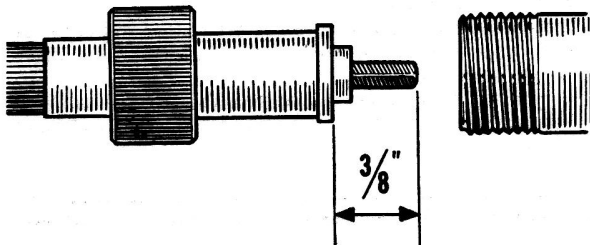

Fig.10.45. Engagement of inner flex of speedometer drive cable
- f) The inner flex must protrude 3/8" beyond the outer case as shown in Fig.10.45.
by lack of lubrication of the inner cable, kinked cable, crushed outer case, connections overtightened, severe bends in the cable, insufficient engagement of the inner cable (Fig.10.45) etc.